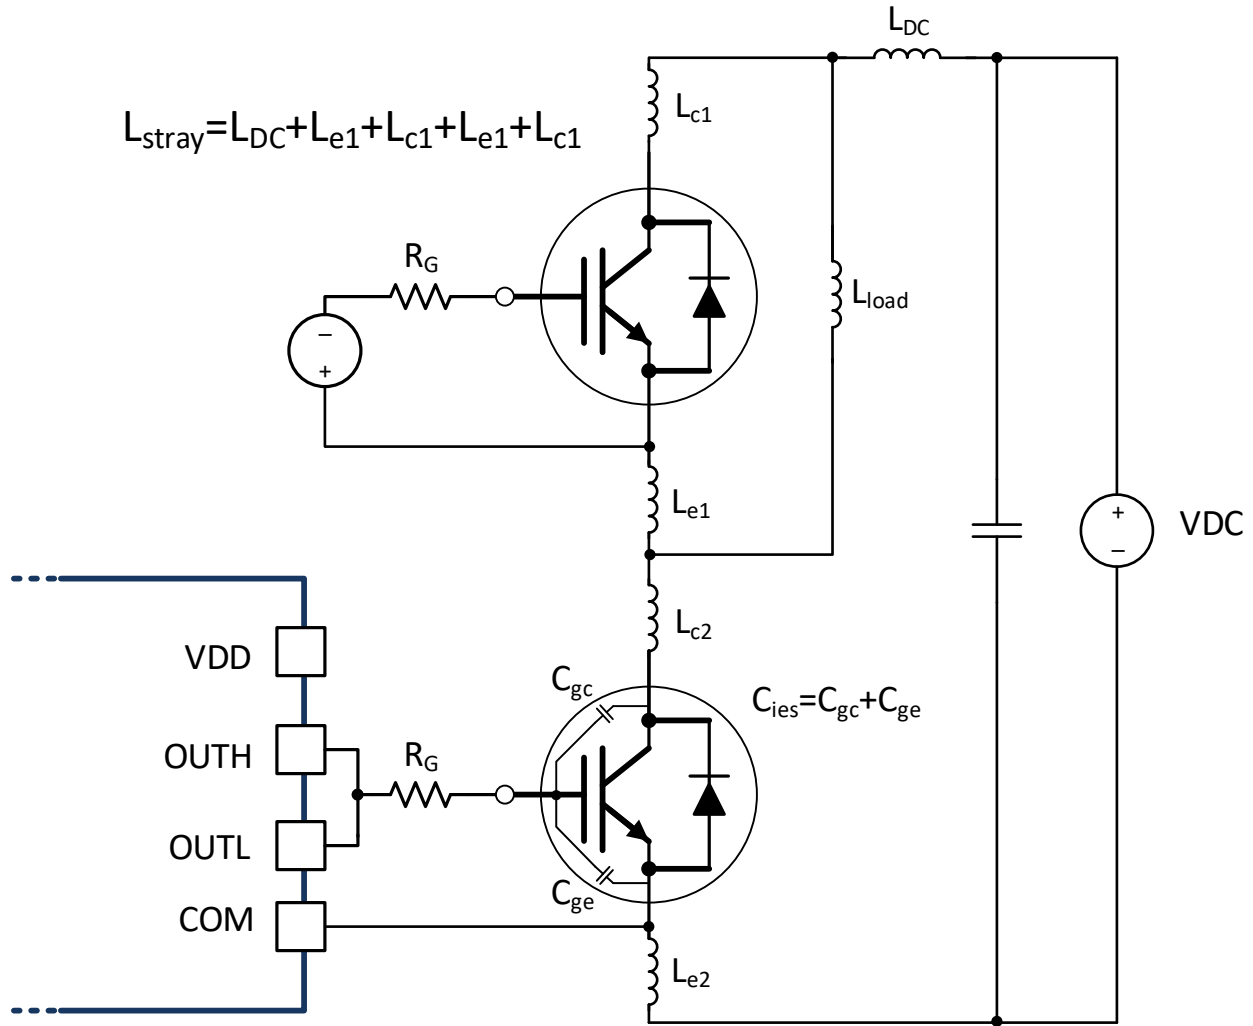

Figure 49. Stray Parasitic Inductance of IGBTs in a Half-Bridge Configuration
- L_{stray} is the stray inductance in power switching loop, as shown in Figure 49